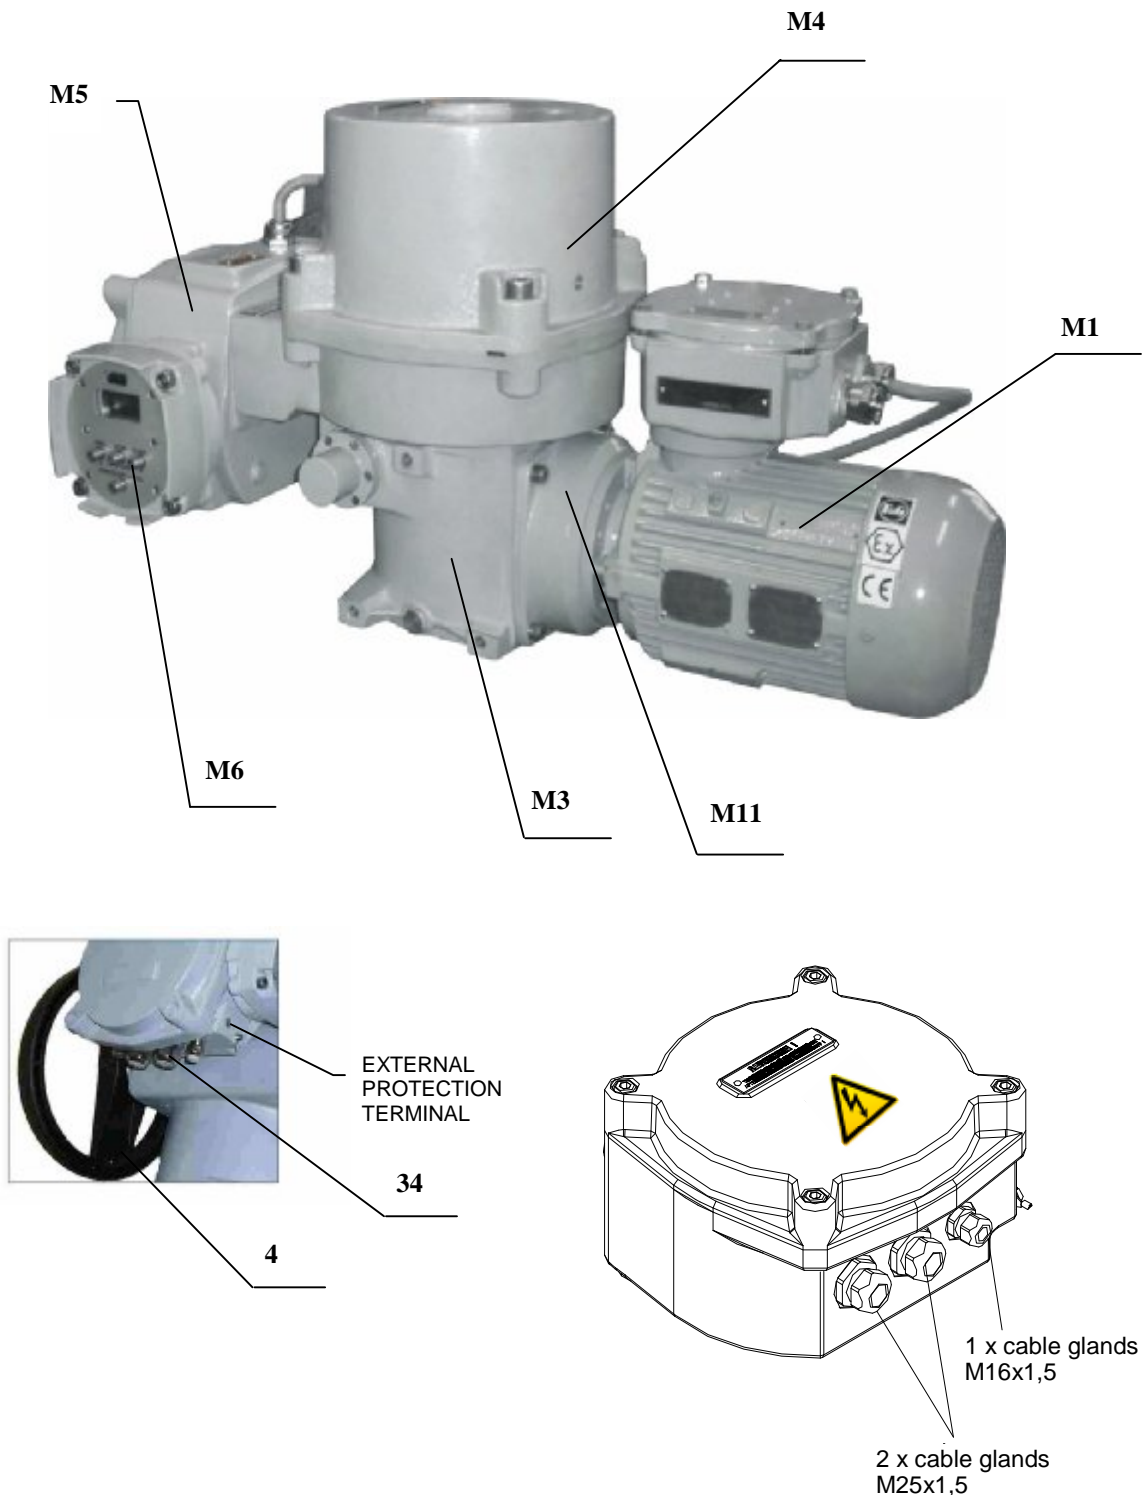

Fig. 1 – MOR 3-PA-Ex, MOR 4PA-Ex
EA MOR X.XPA-Ex are of compact construction with several connected modules. They are composed of two functionally different main parts consisting of following modules (Fig.1):
Module M 4 – control box (Fig. 1)
The electric actuator is driven by an **electric motor (M1) (fig.1)** supplied and controlled from the **power supply board (9)** (fig.3, 3a) and **control unit (10)** (fig.3,3a) of the DMS3 electronics.
Manual control: made up by a handwheel with a worm gearing (4) (fig.1).
- Local electric control module equipped with a 2-line LCD display (33) (fig.1) resp. (fig. 7).